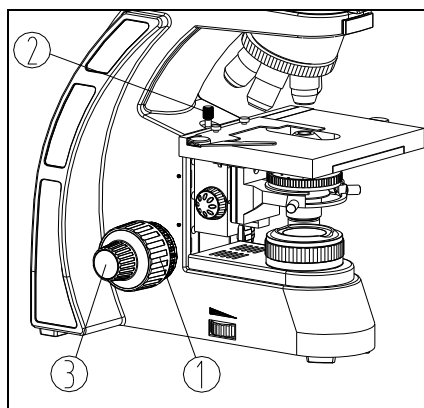

Fig. 11
2. Rotate the position screw ② to top, observe the right eyepiece with right eye. Rotate the coarse focusing knob ① until the image appears (see Fig. 11).
3. Rotate the fine focusing knob ③ for clear details and lock the position screw ②.